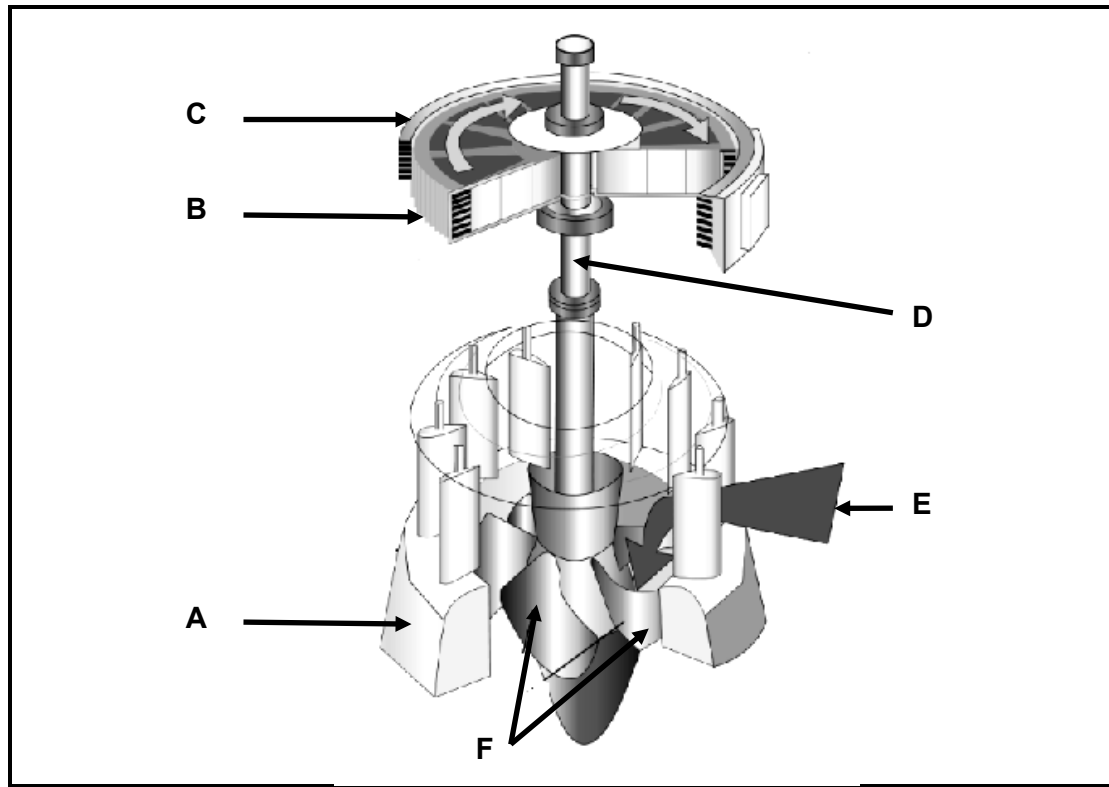

FIGURE 10.1
- 10.3 FIGURE 10.1 below shows a water turbine driving a generator. Answer the questions that follow.
- 10.3.1 Identify the type of turbine shown in FIGURE 10.1. (1)
- 10.3.3 State **THREE** advantages of the turbine in FIGURE 10.1 above (3)